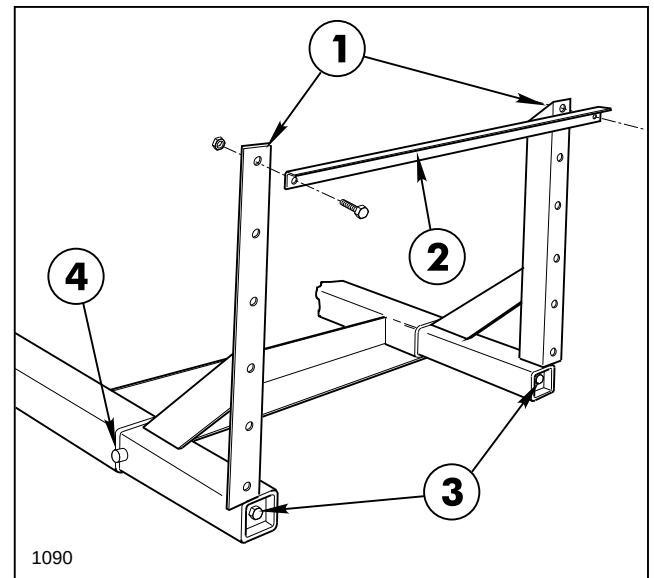

FIG. 10
1. Apply a heavy coating of grease to the tubes of the two Boom Mount Assemblies and insert them into the Vehicle Frame as shown in FIG. 10.
NOTE: Note the position of the angle member of the Boom Mount Assemblies, in relation to the tube member. They must be positioned as shown in FIG. 10 for the mounting of the Cross Support Angle.
5. Using a torque wrench, tighten the 1/2" x 18" wedge screws that join the Wedges to the Boom Mounts. Tighten to 50 ft. lbs. See FIG. 10